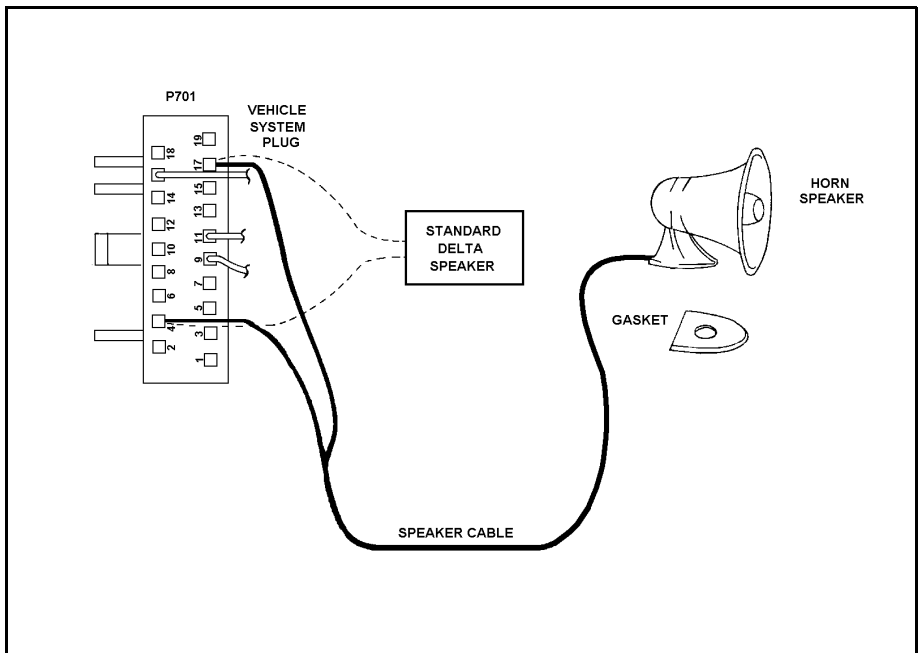
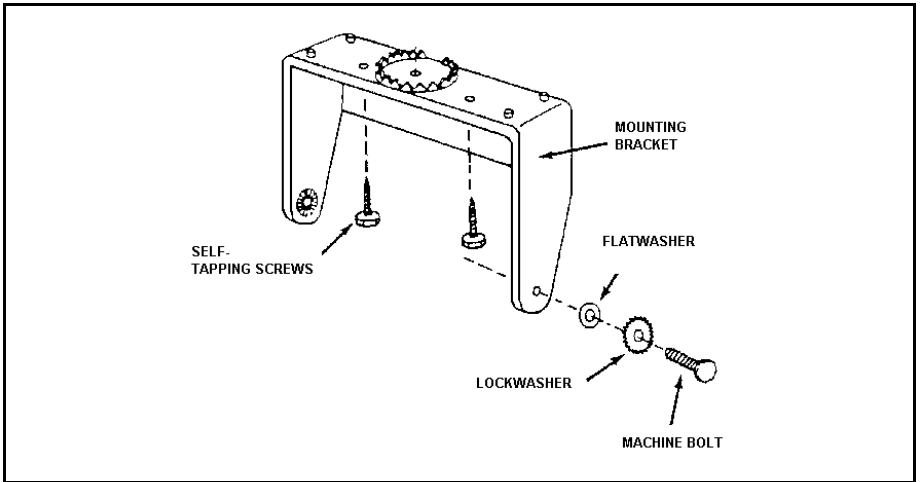

Figure 1 - Replacement Of Standard Speaker With Horn Speaker
Figure 3 - Mounting The Standard Speaker Figure
1. Mount the speaker in the desired location and make the electrical connections indicated in Figure 1.
3. Refer to Figure 1 and connect external speaker wires to P201-2 and -19.
When installing the speaker, use the mounting bracket as a template to locate the mounting holes, and mount the speaker as shown in Figure 3. Refer to Figure 1 and connect the speaker leads to P201-4 and -17 on the Vehicle System Plug.